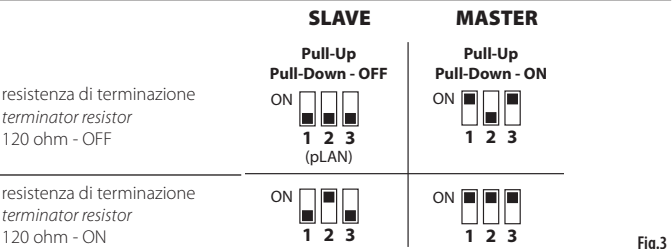

Fig.3
Wi-Fi	Host interface 2.0 - micro USB -B - 150 mA max (non utilizzare per ricaricare dispositivi) Lmax = 1m RS485 max 115,2 Kb/s Connettore sconnettibile a vite passo 3,81mm Cavo schermato AWG 20-22 a coppie ritorte per ± Lmax = 500m - coppia serraggio 0,25Nm (2.2lbf x in) Master/Slave configurabile tramite dip switch (Fig.3)
Porta USB (1)	Host interface 2.0 - micro USB -B - 150 mA max (non utilizzare per ricaricare dispositivi) Lmax = 1m RS485 max 115,2 Kb/s Connettore sconnettibile a vite passo 3,81mm Cavo schermato AWG 20-22 a coppie ritorte per ± Lmax = 500m - coppia serraggio 0,25Nm (2.2lbf x in) Master/Slave configurabile tramite dip switch (Fig.3)
Porte Seriali, COM1 (2), COM2	Host interface 2.0 - micro USB -B - 150 mA max (non utilizzare per ricaricare dispositivi) Lmax = 1m RS485 max 115,2 Kb/s Connettore sconnettibile a vite passo 3,81mm Cavo schermato AWG 20-22 a coppie ritorte per ± Lmax = 500m - coppia serraggio 0,25Nm (2.2lbf x in) Master/Slave configurabile tramite dip switch (Fig.3)
Wi-Fi	Host interface 2.0 - micro USB -B - 150 mA max (do not use to charge devices) - Lmax = 1m RS485 max 115,2 Kb/s Removable screw connector 3.81mm pitch Shielded twisted pair cable AWG 20-22 for ± Lmax = 500m - tightening torque 0.25Nm (2.2lbf x in) Master/Slave set via dipswitch (Fig.3)
USB port (1)	Host interface 2.0 - micro USB -B - 150 mA max (do not use to charge devices) - Lmax = 1m RS485 max 115,2 Kb/s Removable screw connector 3.81mm pitch Shielded twisted pair cable AWG 20-22 for ± Lmax = 500m - tightening torque 0.25Nm (2.2lbf x in) Master/Slave set via dipswitch (Fig.3)
COM1 (2), COM2 Serial ports	Host interface 2.0 - micro USB -B - 150 mA max (do not use to charge devices) - Lmax = 1m RS485 max 115,2 Kb/s Removable screw connector 3.81mm pitch Shielded twisted pair cable AWG 20-22 for ± Lmax = 500m - tightening torque 0.25Nm (2.2lbf x in) Master/Slave set via dipswitch (Fig.3)